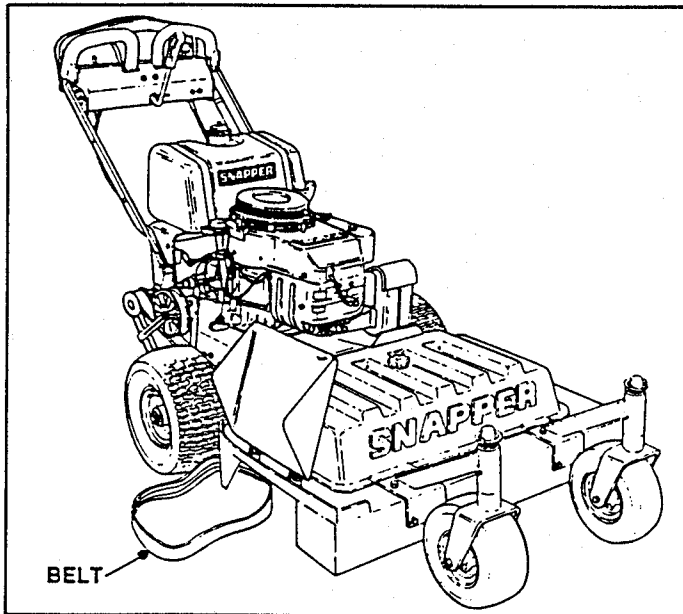

FIGURE 49
1. **STOP ENGINE!** Lay Traction Belt flat on ground in front of Traction Wheel, roll Traction Wheel over Traction Belt. See Figure 49.